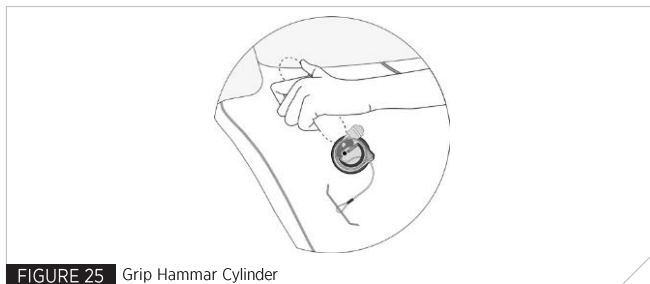

**FIGURE 24B** UML Pro Sensor Elite - Automatic
6. Screw the cylinder into the inflation mechanism in a clockwise direction (For UML Pro Sensor Elite see Fig 24A; For UML Mk5 Automatic see Fig 24B). Ensure the cylinder is screwed hand tight. The top status indicator will turn green when the cylinder is correctly tightened.